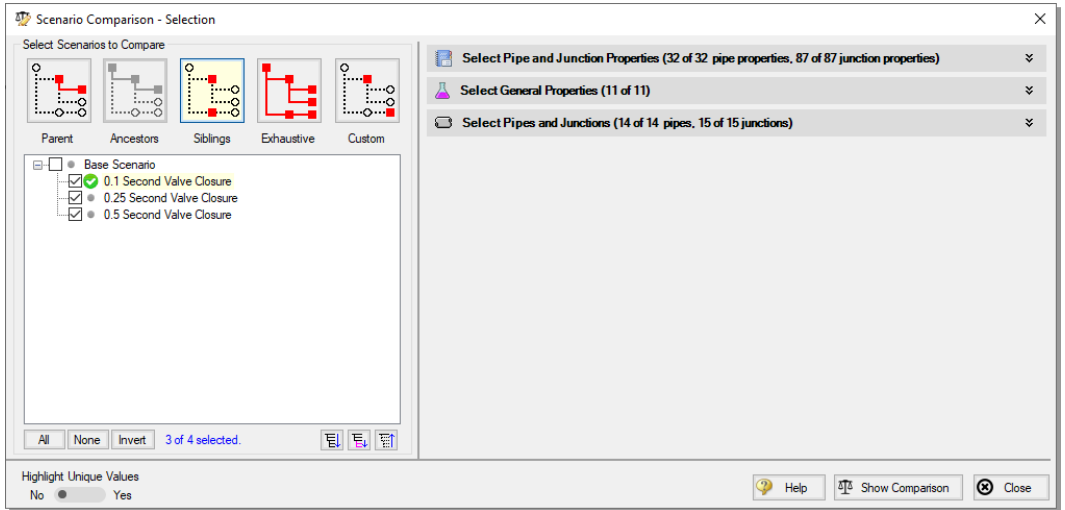

Figure 5.6 Scenario Comparison Tool - Selection window
3. In the Scenario Comparison - Selection window (Figure 5.6), select "Siblings"